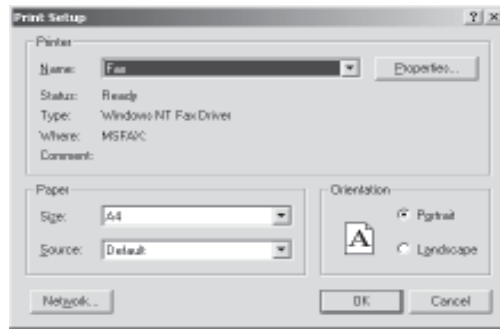

Fig. 6-3 Print Setting Dialogue Block
1. Select and click the options System | Print , then a dialogue block the system prompts you to carry out the print setup operation will be displayed in the interface as in Fig. 6-3.